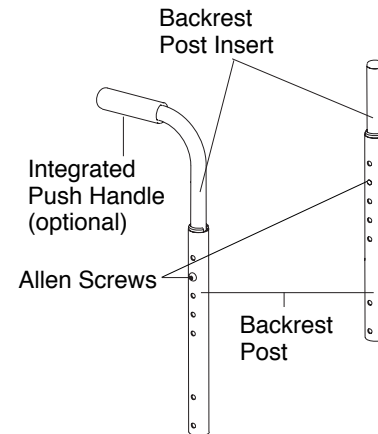

Figure 23
- On both sides of the chair, remove the Allen Screw that secures the backrest post inserts inside the backrest post. See Figure 23.